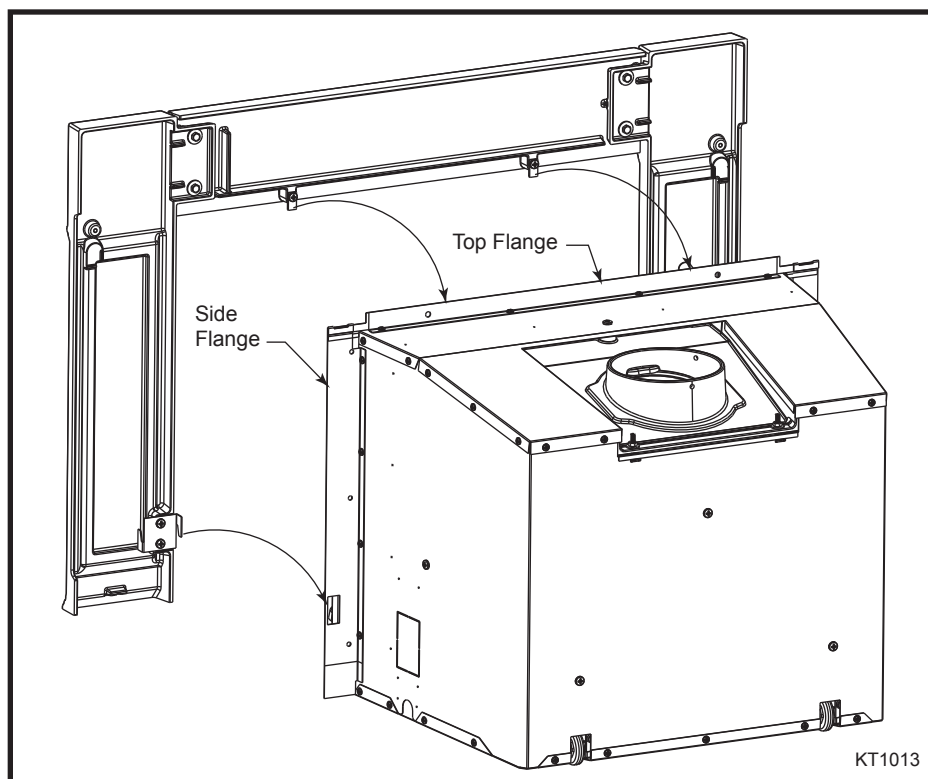

Fig. 3 Lift surround up and over top flange and up and through side flange holes.
2. Position the surround in front of the insert and, with the help of an assistant, gently lift the surround up and over the top sheet metal flange. Make sure the damper tabs are positioned on the back side of the flange. At the same time, align the bottom brackets through the slots on the side flanges. (Fig. 3)
3. Adjust the surround, left to right, so there is an equal reveal and secure by applying downward pressure until the brackets have engaged onto the insert. (Fig. 3)